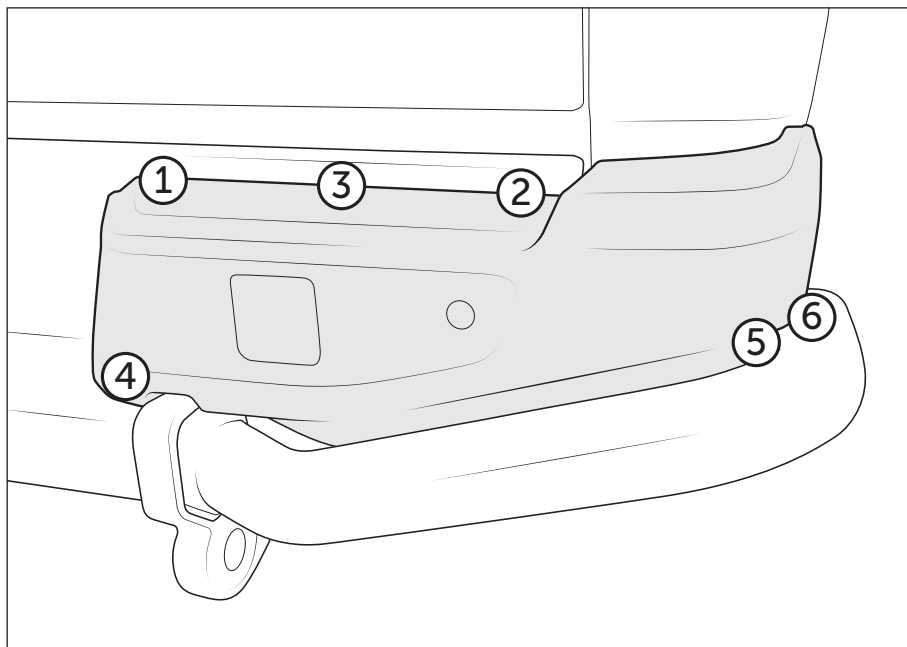

Figure 41
3. Using six of the supplied M8x16 Hex head bolts and washers, install the plastic corner tank onto the center section and corner assemblies. Tighten in the order shown to aid in alignment (fig. 41). NOTE: Installation of the upper inboard bolt will require the removal of the tailgate for tool access.